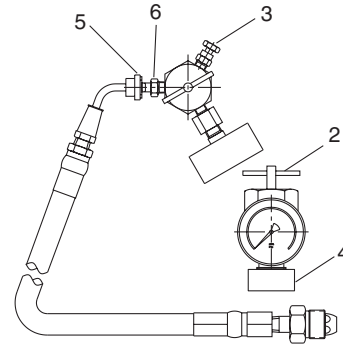

Figure 1
- (A) Remove protective cover. Refer to Figure 1.
- (B) Turn charging device "T" handle (2) all the way in (clockwise) before attaching charging assembly.
- (C) Close bleed valve (3).
- (D) Making sure not to loop or twist the hose, attach nut (4) to gas valve and tighten.
- (E) Attach swivel nut (5) to gas valve (6) and tighten.
- (F) Turn "T" handle (2) in counterclockwise motion until rotation stops.
- (G) Crack open nitrogen bottle valve and **slowly** fill accumulator until the button is seated on the fluid port opening, then the nitrogen supply may be fully opened. Shut off the nitrogen supply when the gauge indicates 110% of desired pre-charge.
- (H) Let the pre-charge set for 1 to 2 minutes. This will allow the gas temperature to stabilize. Slowly open bleed valve (3) until the proper pressure is reached, then close the bleed valve (3).
- (I) When finished pre-charging accumulator, turn the "T" handle (2) clockwise all the way, then open bleed valve (3) to bleed the residual pressure from the charging device.
- (J) Holding the "T" handle (2) to keep from turning, loosen nut (4), and remove the assembly from the accumulator.
- (K) Torque the Allen head screw to 14.5 ft-lb +3 (20 Nm +5).